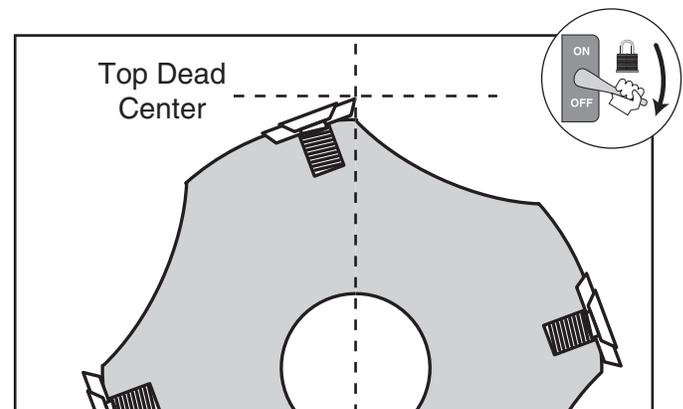

Figure 99. Cutterhead insert at top dead center.
- Rotate cutterhead pulley until one cutterhead insert is at top dead center (its highest point during rotation), as shown in **Figure 99**.